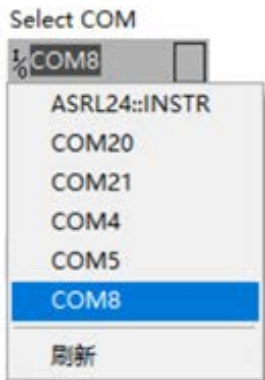
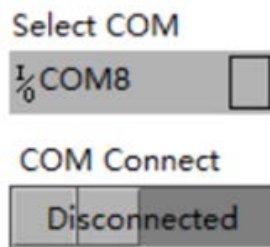
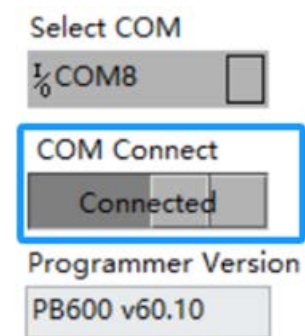

Figure 5.5.3 Select COM
Figure 5.5.4 COM Connect
Figure 5.5.5 Connected state
- Click the menu below "Select COM" to select the corresponding port number for the programmer (Figure 5.5.3). Click the "disconnected" button below the "COM Connect" to establish a communication connection between the programmer and the computer (Figure 5.5.4). After establishing communication between the programmer and the computer correctly, the programmer will return the current firmware version number and display it in the box corresponding to "Programmer Version" below (Figure 5.5.5).